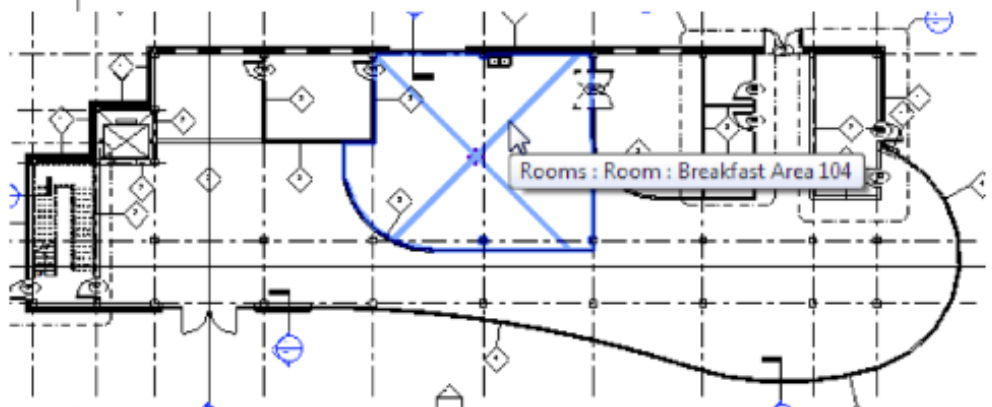

Figure 15–31
2. Although you do not see the rooms in the view, you can roll the cursor over the rooms in the plan and select the room elements, as shown in Figure 15–31.